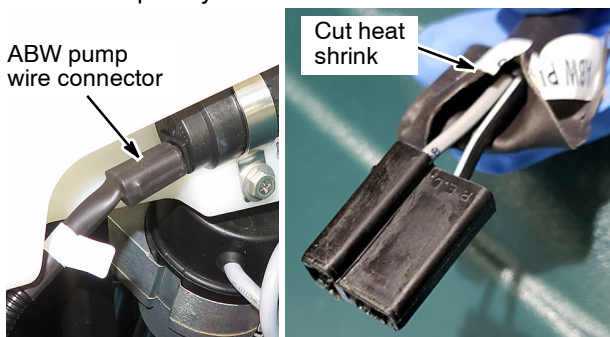

Fig. 12
a. Carefully cut back the heat shrink to expose the wires as shown (Figure 12). Do not remove the heat shrink completely.